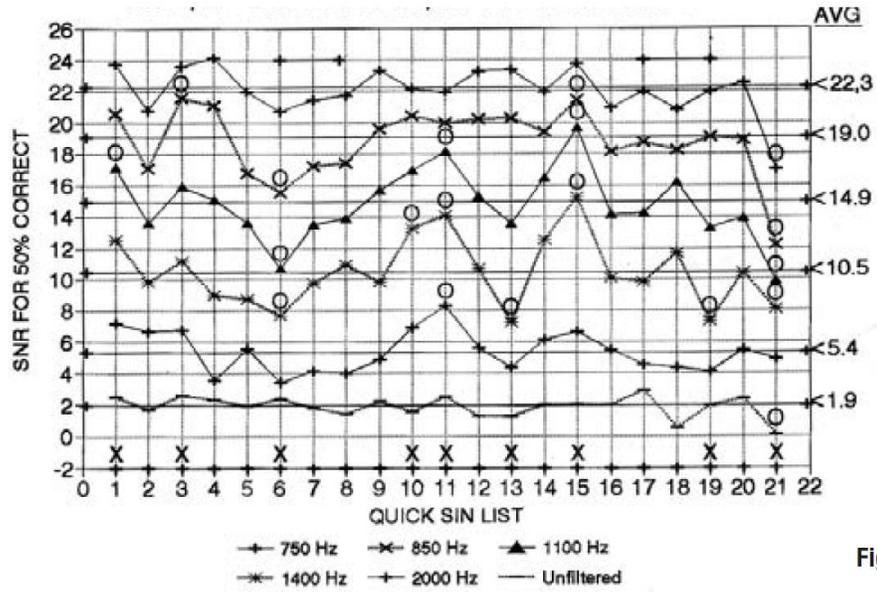

Figure 5
**Figure 5** shows a plot of across-subject QuickSIN Beta averages for 25 normal-hearing adult subjects at each filtering condition. The twelve lists without an X exhibited SNR-50 values at *each* filtering condition that fell within  $\pm 2.2$  dB of the grand average. *In addition, three pairs of lists were found whose pair average met those criteria. (Typically one list score would be high and the other would be low under similar conditions.) By adding those paired lists, a total of 15 equivalent lists became available (12 lists plus 3 list pairs).*